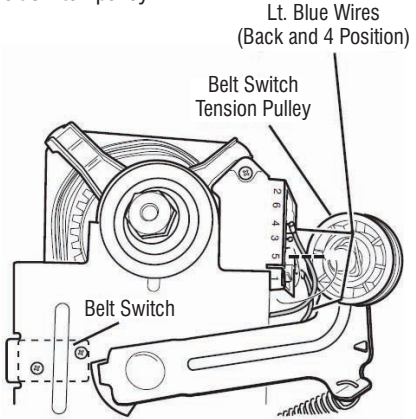

Figure 11 - Checking the belt switch.
11. Check the belt switch by measuring resistance between the two light blue wires, as shown in Figure 11, while pushing up the belt switch pulley.